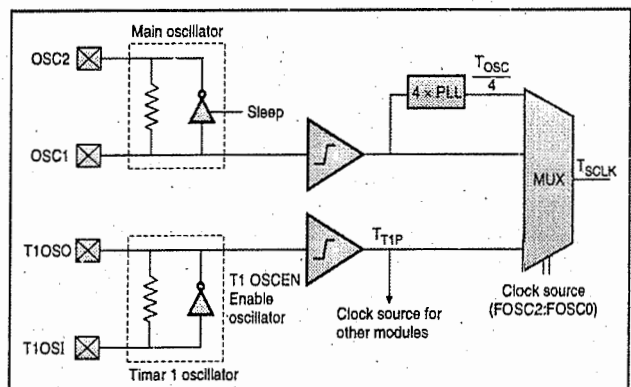

Fig. 4.13.1 : Oscillator clock sources
- OSC1 is the default oscillator. Fig. 4.13.1 shows the oscillator clock sources.
- The Timer 1 oscillator operates at 32 KHz  $T_{T1P}$  is the output got from Timer 1 oscillator as shown in Fig. 4.13.1.